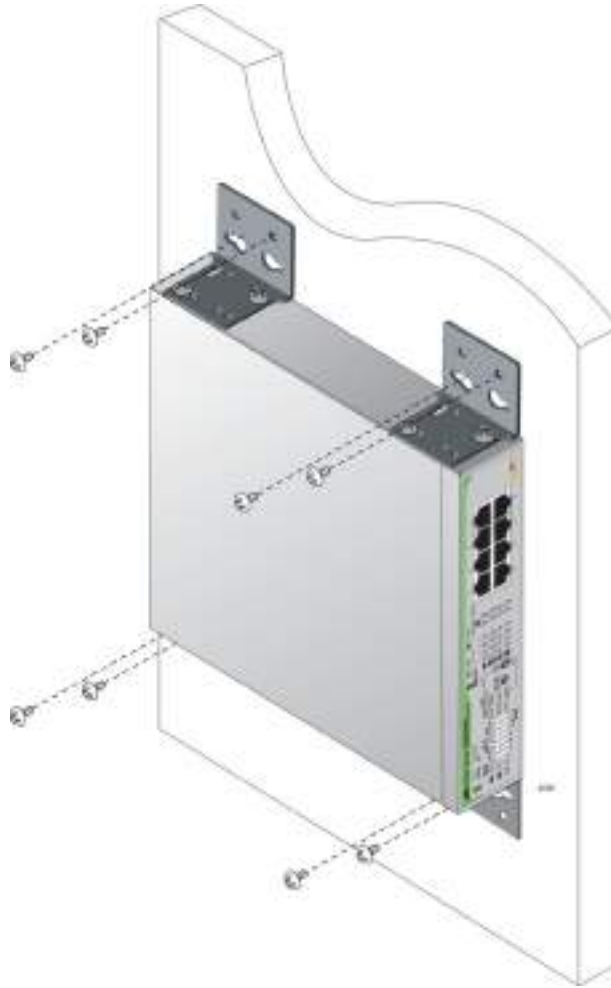

Figure 41. Installing the Switch on the Wall
5. While another person holds the switch at the wall location, secure the switch to the wall using the eight wall mounting screws. See Figure 41.